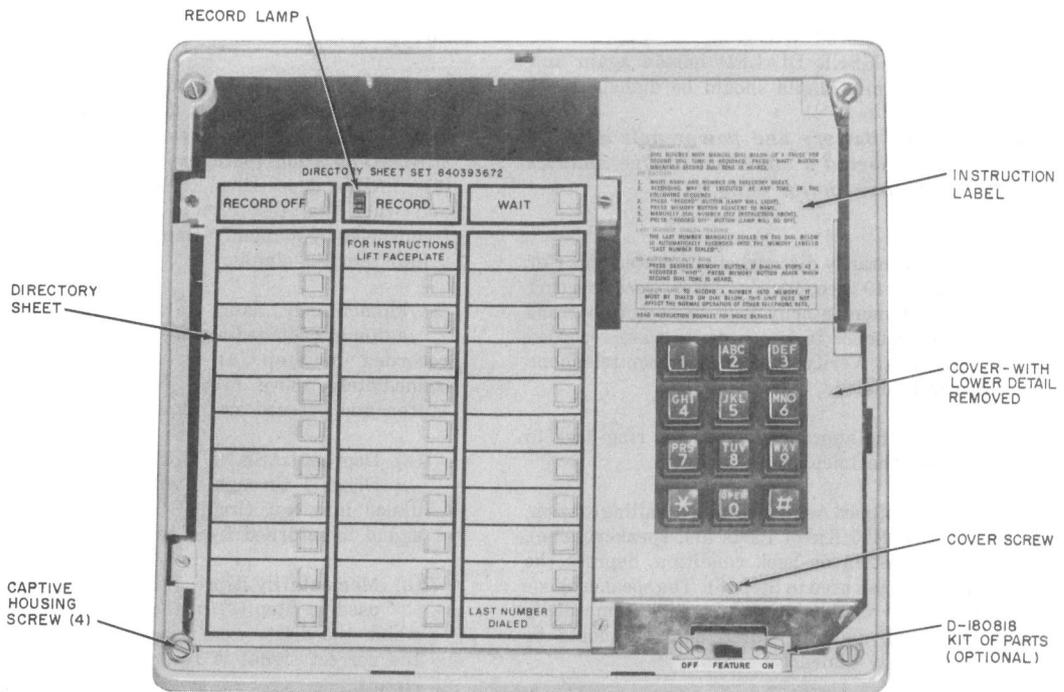
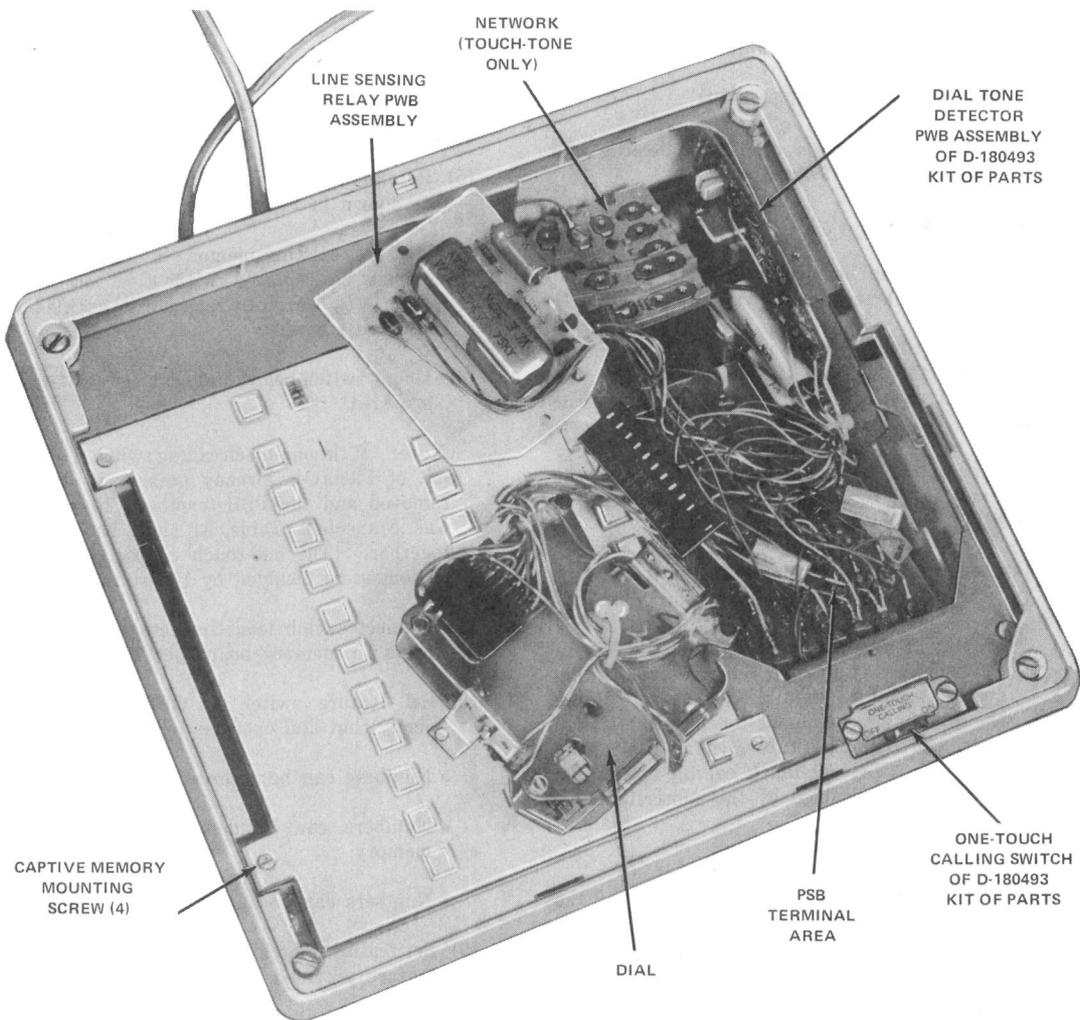

Fig. 2—2870A1 Dial, Faceplate Removed
Fig. 3—2870A1 Dial, Dial and Memory Removed to Show Terminal Area
3.04 Directory sheets (Fig. 2) are held in place under the faceplate. Additional sheets are available in directory sheet set.
- (1) Remove the housing (paragraph 3.11), and access PSB terminal board (paragraph 3.09).
- (2) Insert the dial tone detector board assembly from the back of the dial, such that the two tabs on the board assembly fit into the slots in the chassis (Fig. 3).
- (3) Insert the self-threading screw through the side of the chassis to secure the board in position.
- (4) Mount the one-touch calling switch below the dial with the two screws provided.
- (1) Remove faceplate (paragraph 3.10).
- (2) Loosen the captive screw at the bottom of the cover around the dial and remove the cover (Fig. 2).
- (3) Disengage dial from chassis (paragraph 6.05 or 6.06).
- (4) Loosen the four captive Memory mounting screws (Fig. 3).
- (1) Disconnect power unit from ac outlet.
- (2) Remove the faceplate (paragraph 3.10).
- (3) Loosen the captive cover screw at the bottom of the cover around the dial (Fig. 2).
- (4) Remove the cover.
- (5) Loosen the two captive dial mounting screws.
- (6) On the 870A1 dial, place the 8-type dial aside to gain access to some of the PSB terminals. On the 2870A1 dial, carefully disengage the connector of the 35-type dial and rotate the dial onto the memory button field (Fig. 3).
- (7) Remove the two mounting screws for the Line Sensing Relay Board and place the board assembly aside to access the remaining terminals on the PSB.
- (8) To reassemble, reverse this procedure.